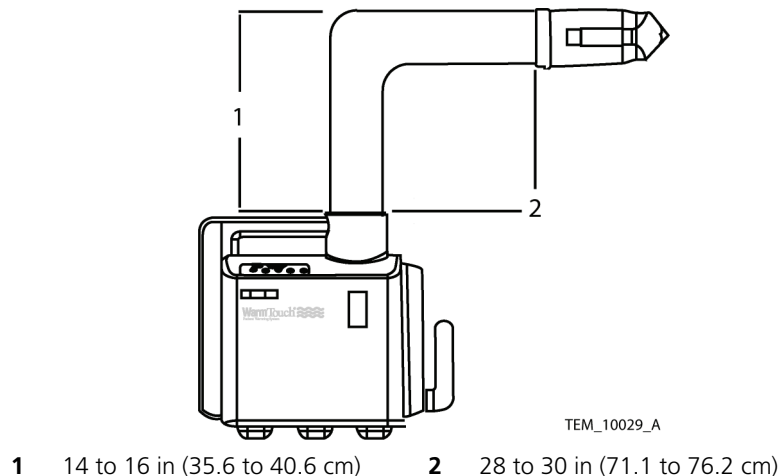

Figure 11. Output Temperature Test Setup
6. Extend the hose to match the configuration shown in Figure 11.